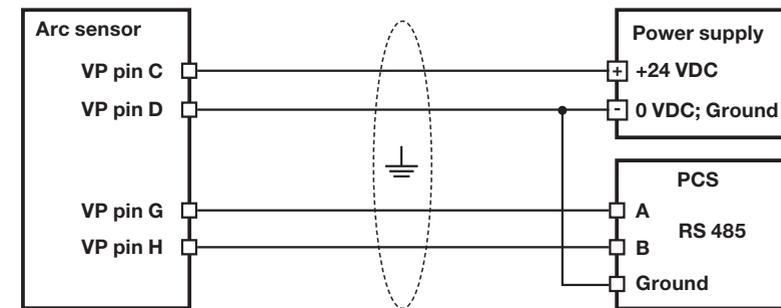

Figure 16: Wiring diagram for the RS485 interface
- To connect to the Incyte Arc sensor click one the VCD sensor on either the *Sensor Dashboard* or the *Sensor List* (in the upper left corner). When the sensor is connected, the Info Tab of the sensor is displayed (see Figure 16).